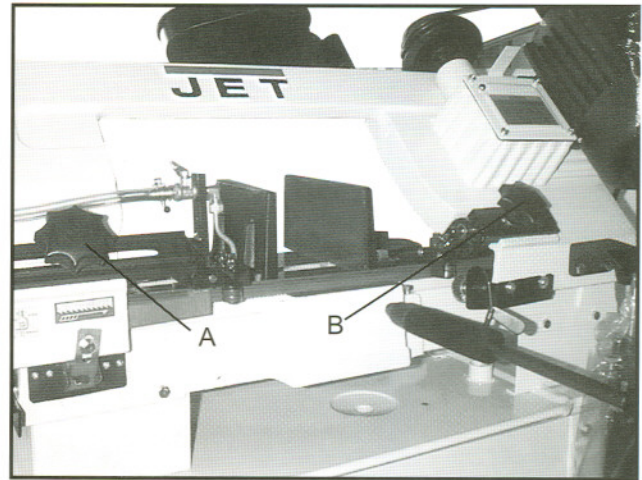

Fig. 8
2. Loosen knob (A, Fig. 8) and bolt (B, Fig. 8). Slide the blade guide assemblies as close as possible to the material without interfering with the cut.
3. Tighten knob (A, Fig. 8) and bolt (B, Fig. 8) and connect machine to the power source.